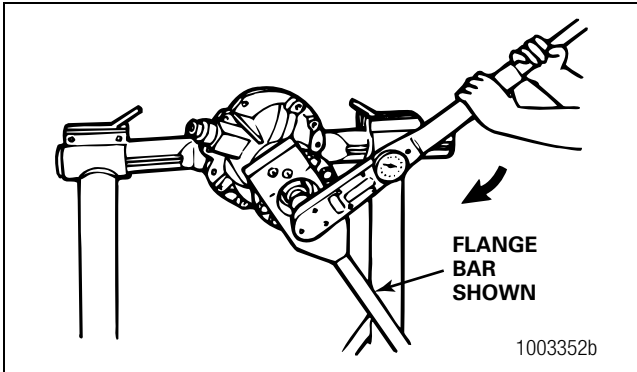

Figure 5.17
4. Fasten a yoke or flange bar to the input yoke or flange. The bar will hold the drive pinion in position when the nut is tightened. Figure 5.17.
5. Tighten the drive pinion nut to the correct torque value. Figure 5.17. Refer to Table I.